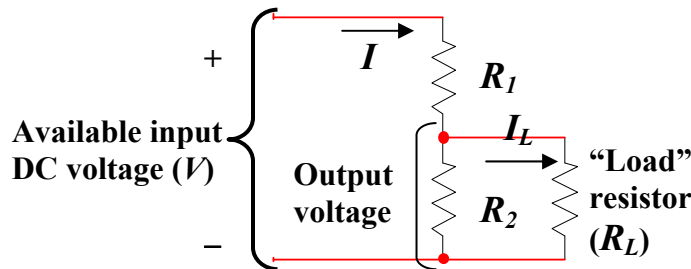

Fig. 1. Schematic of Voltage Divider Circuit.
3.1.1. Fig. 1 above shows such a voltage divider. Say the voltage requirement is $0.3V$. The output voltage is $I \cdot R_2$; $I = V / (R_1 + R_2)$ (assuming R_L , as shown in Fig.1, is not yet connected). If 70% of the voltage drop is in the upper (R_1) resistor, the desired output voltage will be $0.3 V$. Since total resistance R_T of the two resistors is $R_1 + R_2$, then to get $0.3 V$ across the smaller resistor, we need $R_1 = 0.7R_T$, and $R_2 = 0.3R_T$. Clearly, if R_2 is 30% of the total resistance, then the voltage drop on R_2 is $0.3V$. That is, $(R_2 / [R_1 + R_2]) = 0.3$.